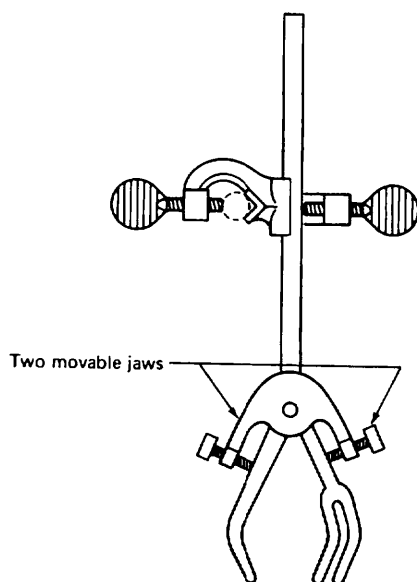

Fig. 89 The three-fingered clamp with clamp fastener.
3. **The three-fingered extension clamp** (Fig. 89). This is truly the Cadillac of clamps with a price to match. They usually try to confuse